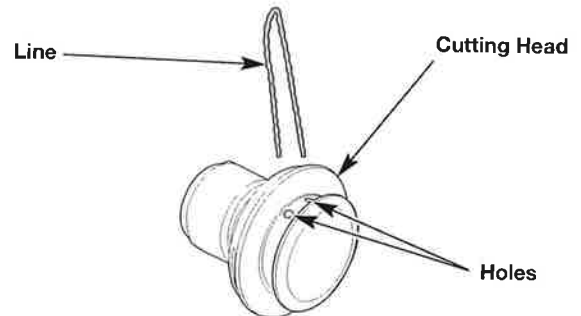
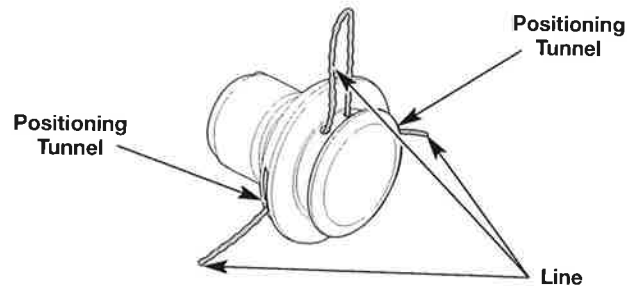

Fig. 17
Fig. 18
3. Insert the ends of the line through the large circular holes in the side of the cutting head (Fig. 17). Push the line through the holes until both ends protrude from the positioning tunnels (Fig. 18).